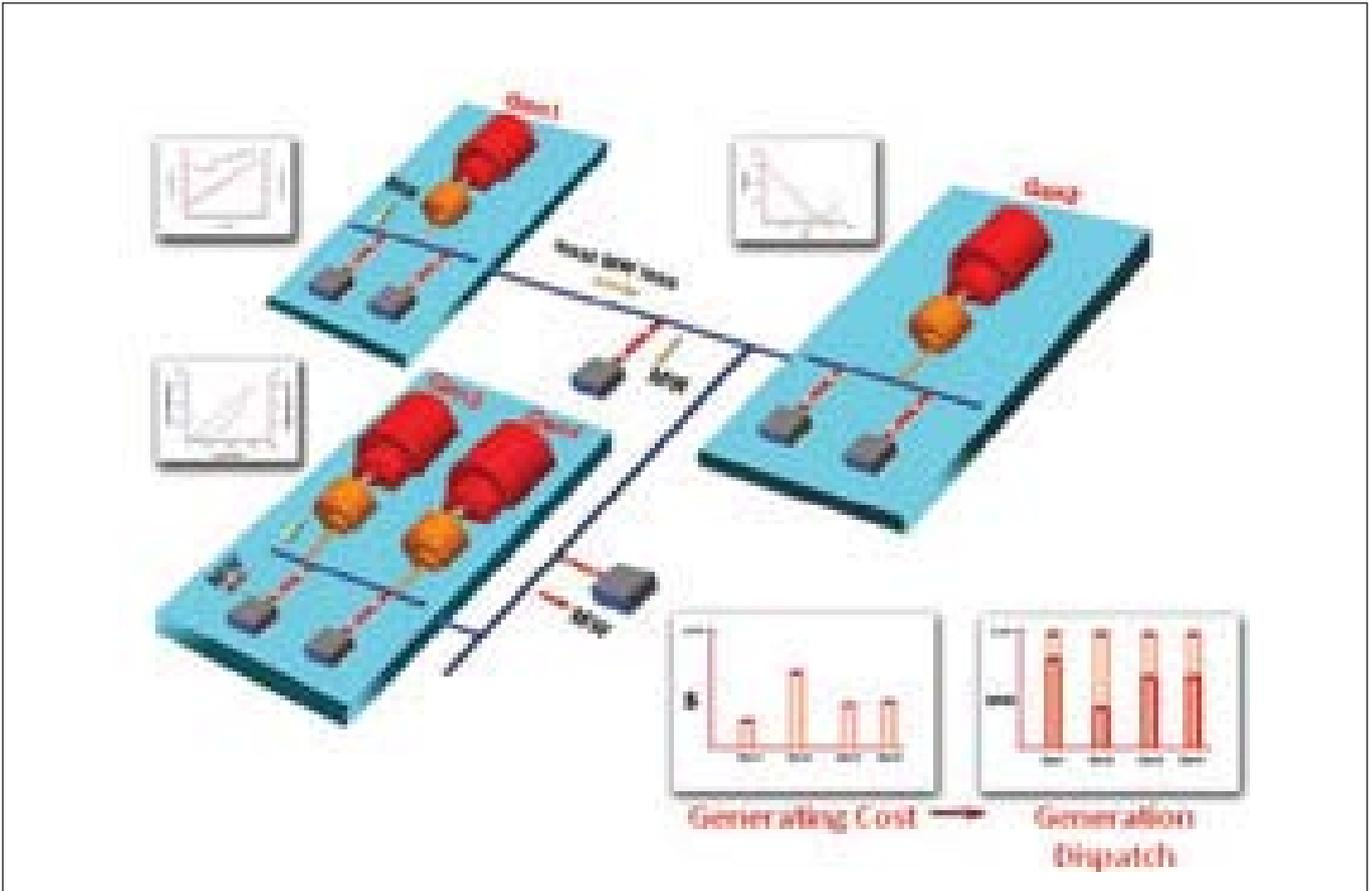

Figure 3: ED for minimisation of fuel cost for three generation plants operated with different fuel costs and efficiency curves.
Economic Dispatching (ED) which, these days, is known as Smart Dispatching by smart grid users and also known as micro-dispatching by microgrid providers, has the key role in smart grids. The major point of having ED is to maximise economical power generation and distribution benefits while maintaining customer control. In other words, energy providers must match demand and dispatch generation in the most economical way while system and customers' requirements are considered. Wide and interactive optimisation objectives might need to be satisfied while system requirements and constraints must be taken into account (Figure 3).